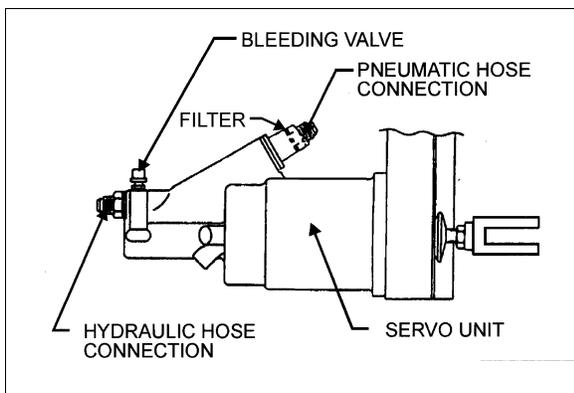

FIGURE 6: SERVO UNIT
| FIG. 6: SERVO UNIT..... | 02-5 |
2. Attach a plastic tube to the bleeding valve (Fig. 6). Dip the other end of the tube in a jar containing several inches of clean brake fluid.
2. Slightly loosen teflon flexible hydraulic hose connector from adaptor mounted on extremity of servo unit (Fig. 6).
The pneumatic air line filter should be cleaned every 6,250 miles (10 000 km) or twice a year, whichever comes first (Fig. 6). The filter is mounted inside servo unit pneumatic branch.